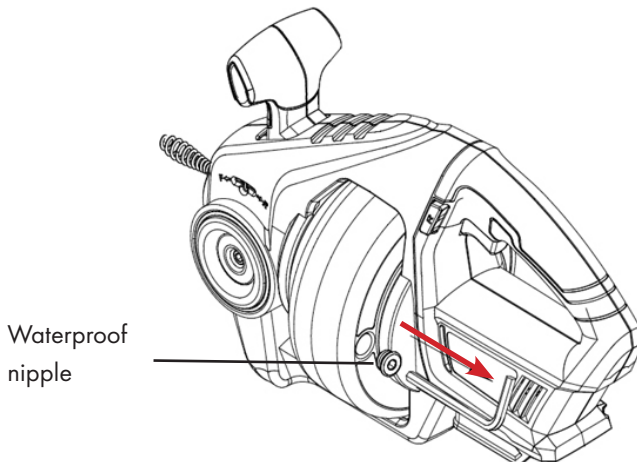

Fig.12
- Unscrew the waterproof nipple with an Allen wrench (Fig.12).